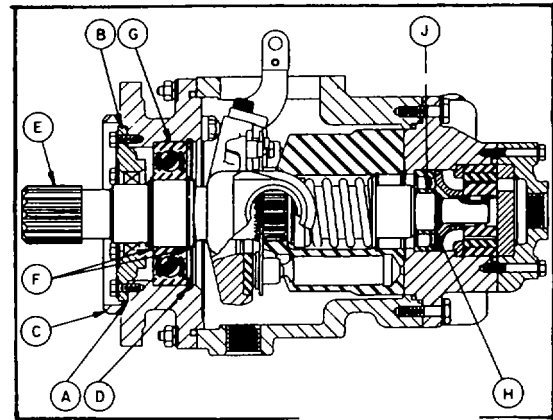

Figure 128.
In the absence of the O ring and groove, remove retainer gasket (A) from retainer (B) or flange (C). See Fig. 128.
On units with an 8 inch square flange (pre Phase III) the shaft is removed from the back of the flange. See Fig. 128.
On units with an 8 inch square flange, the shaft assembly is installed through the back face of the flange. See Fig. 128.
- A. Install pump shaft (E) and assembled parts (F, G, H & J) from back of flange using procedure as described in Step (4) above.
- B. Using truarc pliers, install retaining ring (D) in adapter.
5. Press a new shaft seal (56) into the retainer (57) using an arbor press with a 21/2 inch plug and loctite sealant. Fill cavity between oil lip and wiper lip approximately 3/4 full with Litholene Multi-Purpose grease. Install new square ring (29) in flange (2). To prevent possible cuts or abrasion, the square ring (29) should be lightly coated with a multi-purpose grease. Wrap shim stock or other thin material around shaft spline and carefully slide shaft seal (56) and retainer (57) over pump shaft (1).
In the absence of square ring shoulder, place new gasket (A) over pump shaft (E) and proceed as in Step (6). See Fig. 128.